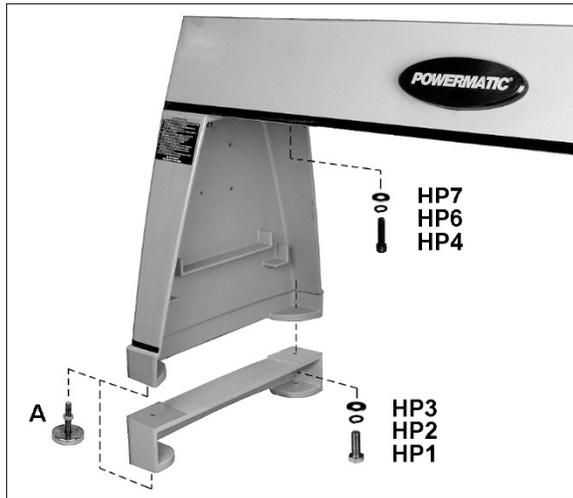

Figure 6-1: installing legs and riser blocks
4. Install legs to bed with screws and washers (HP4/6/7, Figure 6-1). Tighten screws firmly.
5. If installing the riser blocks, mount them to the stands with screws and washers (HP1/2/3, Figure 6-1).
6. Screw levelers (A, Figure 6-1) into threaded holes of riser block (or legs if riser block not used). The levelers can be adjusted at any time to ensure the lathe is stable and level. Tighten the hex nuts against bottom of riser block/legs to secure height setting.